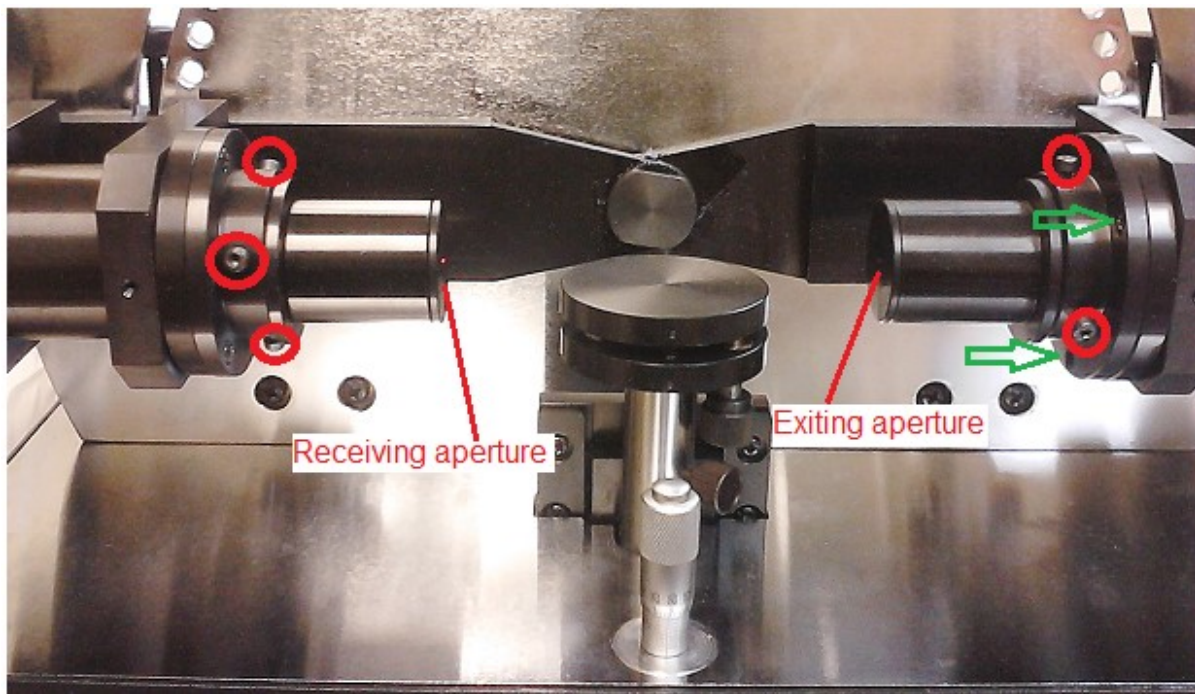

Figure 2 Photo of exit and receiving apertures
- a) Refer to Figure 2, lay down both the entrance arm and the exit arm to let them in one line in horizontal direction (Note: check if the “Zero” line of the vernier is at 90° position on the back side of the scale plate).
- c) If still can't get laser out, remove the flange of the exiting aperture by unscrewing the 3 Phillips screws (pointed with green arrows in Fig. 2), then adjust the 6 adjustable screws of the laser tube to bring the laser beam approximately in the centre of the entrance arm (may use a white paper to view).
- e) Mount back the two flanges of exiting aperture and the receiving aperture, if no laser outputs from the exiting aperture, release the 3 screws (red circled in Fig. 2) using a 2.5 mm inner hexagon spanner wrench and carefully move around the released aperture tube head to let the laser beam exit from the aperture, then fix the 3 screws. Similarly, adjust the receiving aperture if the laser beam cannot enter the receiving aperture.
- (2) Take down the flange of the exiting aperture (see step (1) – c)) to expose the quarter-wave plate (note: before doing that, make a mark on the flange edge near one of the three Phillips screws to remember its orientation, so it can be recovered to the same orientation when mounting back). Make a mark to remember the orientation of the wave plate and then remove the wave plate by releasing the two pressing screws. Place both the entrance and exit arms to 70° position. Put a flat mirror on the stage, and adjust the stage to let the reflected beam enter the receiving aperture. Set the polarizer to 0° and the analyser to 90° , check if light extinction occurs. If not, rotate both the polarizer and the analyser back and forth carefully until the minimum optical signal is recorded on the detector. Write down the angle readings of the polarizer and analyser, which are the original system errors of the angle readings. They need to be subtracted in angle measurement in experiment.
(3) Lay down both the entrance and exit arms horizontally, put back the quarter-wave plate at its original orientation. Check if extinction occurs when the polarizer is at 45° and the analyser at 135° (note the original system error). If not, finely rotate the quarter-wave plate to achieve the minimum light signal with the polarizer at 45° and the analyser at 135° (still note the original system error) and fasten the wave plate. Finally, mount the flange of the exiting aperture back. Make sure the laser can output from the aperture, if not, finely adjust the exiting aperture following step (1) – e).